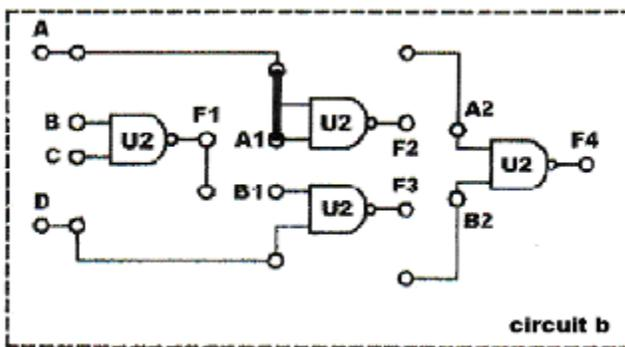

Fig. 2-5 (a)
1. Insert connection clips according to Fig. 2-5(a), using U2c and U2d to construct the NOT gate shown on left side of Fig. 2-5(b).
(2) Connect input A1 to Vcc ("1 ") and remove the connection clip between A and A1 to create the NOT gate shown on the right side of Fig. 2-5 (b). Other connections remain the same. Observe the output states.